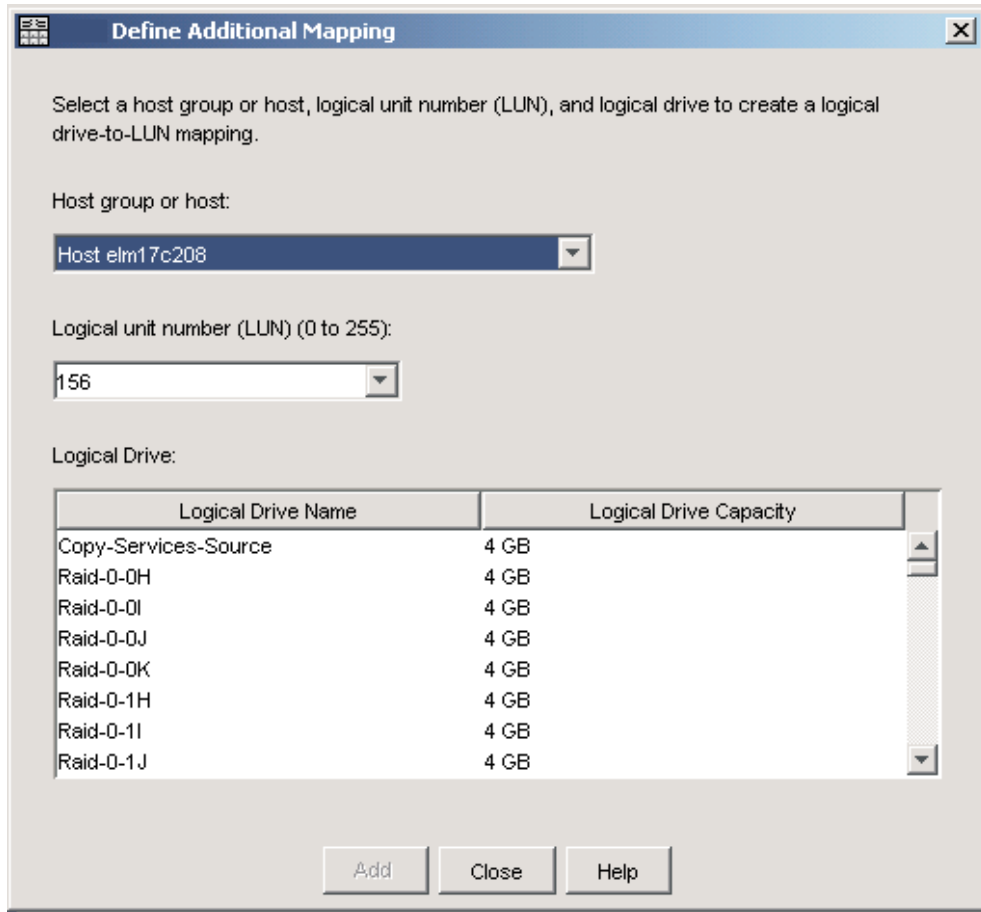
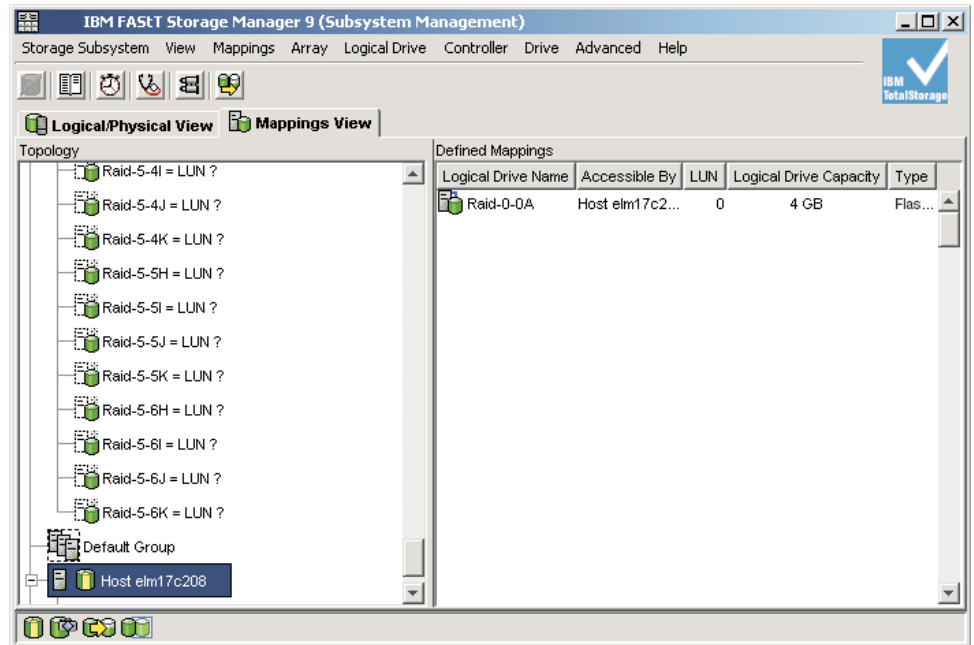

Figure 12. The Define Additional Mapping window
Figure 13. Mapped FlashCopy logical disk
3. In the Define Additional Mapping window, specify the following options, as shown in Figure 12 on page 30.
When you are finished, the FlashCopy logical drive is available to the host or host group, as shown in Figure 13 on page 31.
In the mapping example shown in Figure 12 on page 30 and Figure 13, the FlashCopy logical drive named DataVol-1 is made available to the backup server host group. This enables the backup server to access and mount the drive as part of its own file system. It also allows a local backup to be performed by the backup application software.